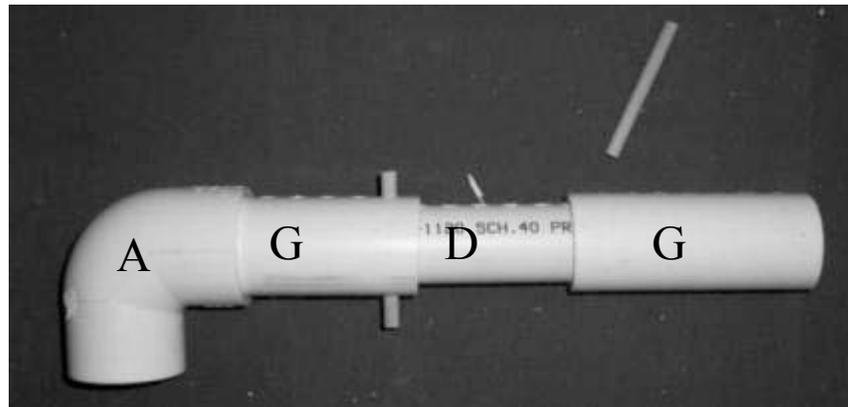

FIGURE 14 – Step 10 – Upper Rear Wheelchair Frame.
**Step 10.** Use clevis pins (or dowel rods if clevis pins are unavailable) to align the holes of two Part G components with Part D as shown in Figure 14.